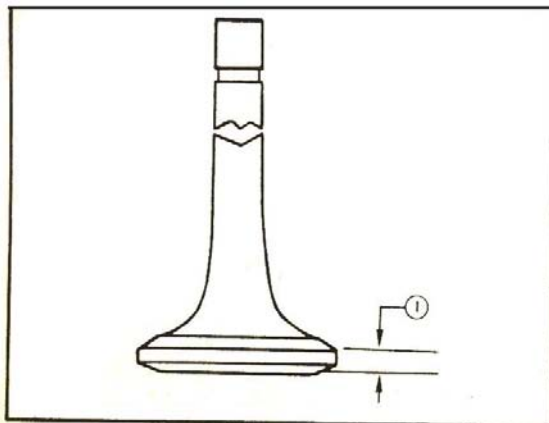

Fig. 2-11, Minimum valve head rim thickness
The heads are bent, cracked, or worn too thin to grind to within limits. Measure the valve head rim thickness (1, Fig. 2-11), which is to be a minimum of 0.105 inch [2.67 mm]. The stems (Fig. 2-12) are worn beyond worn limit as listed in Table 2-1 (1). The collet groove is worn so that new collets will not fit securely.
2. Wet-grind the valves to an exact 30 degree angle from vertical. Check the rim thickness as shown in Fig: 2-11. If the rim is less than 0.105 inch [2.67 mm], do not use valve.